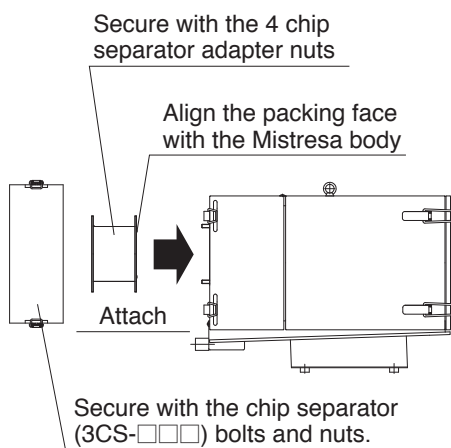

Fig.13
- ② Secure the chip separator adapter to the Mistresa using the 4 nuts which had been used to secure the duct phase flange (see Fig.13) .